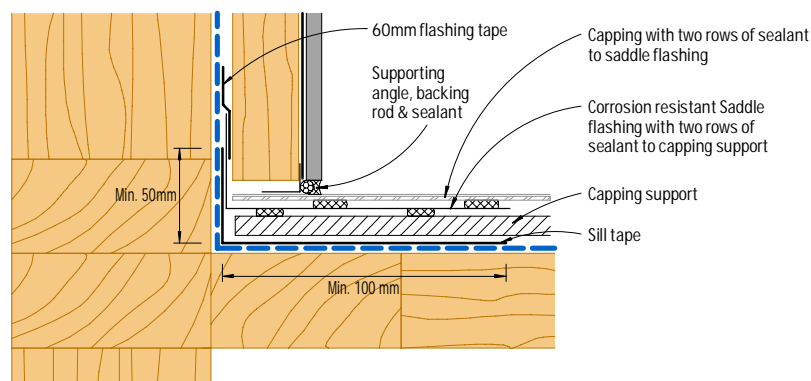

Figure 36: Parapet junction - Section
- 4) Capping shall be designed and engineered accordingly to provide adequate allowance for ventilation as shown in Figures 36 & 37.